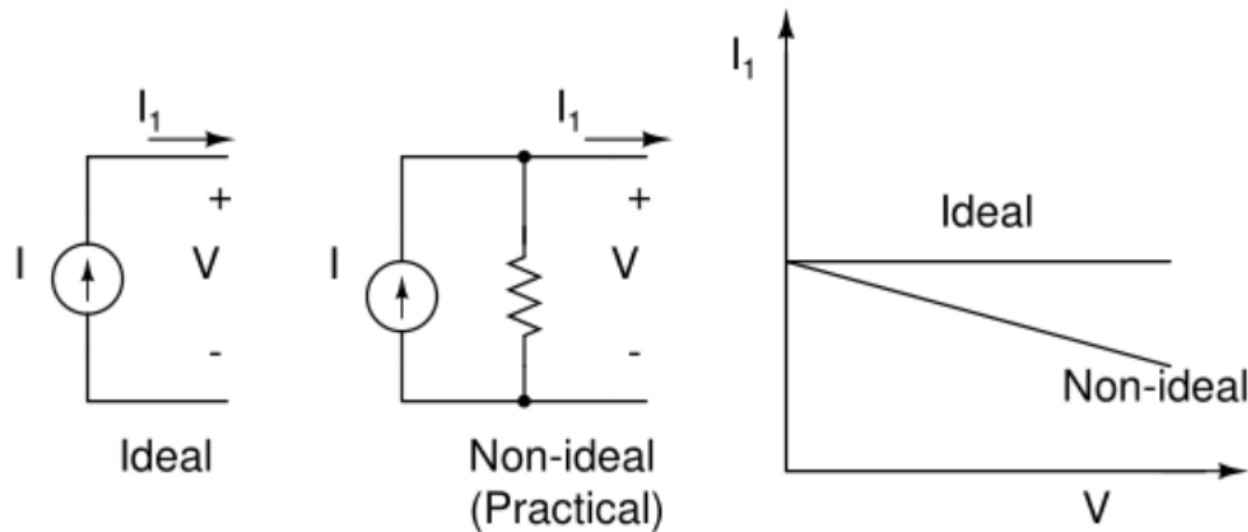

Fig. 4
- In a practical current source, as the terminal voltage across the load increases, the current supplied by it progressively decreases (see Fig.4).